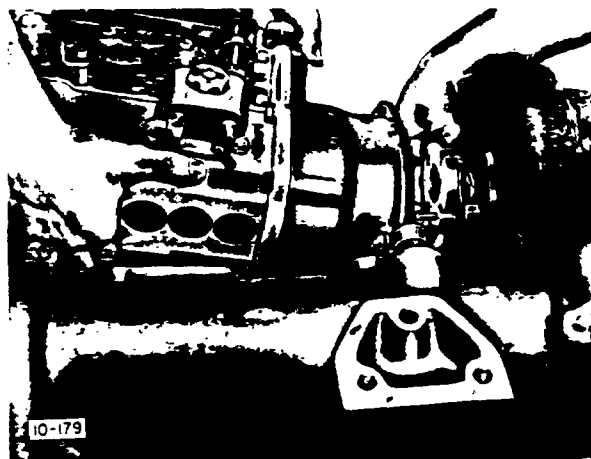

Figure 70. Installing Injection Pump
4. Rotate pump coupling driven flange until lugs are in a vertical plane and indexing hole is at 7 o'clock position, looking from drive end of pump. See Figure 70.